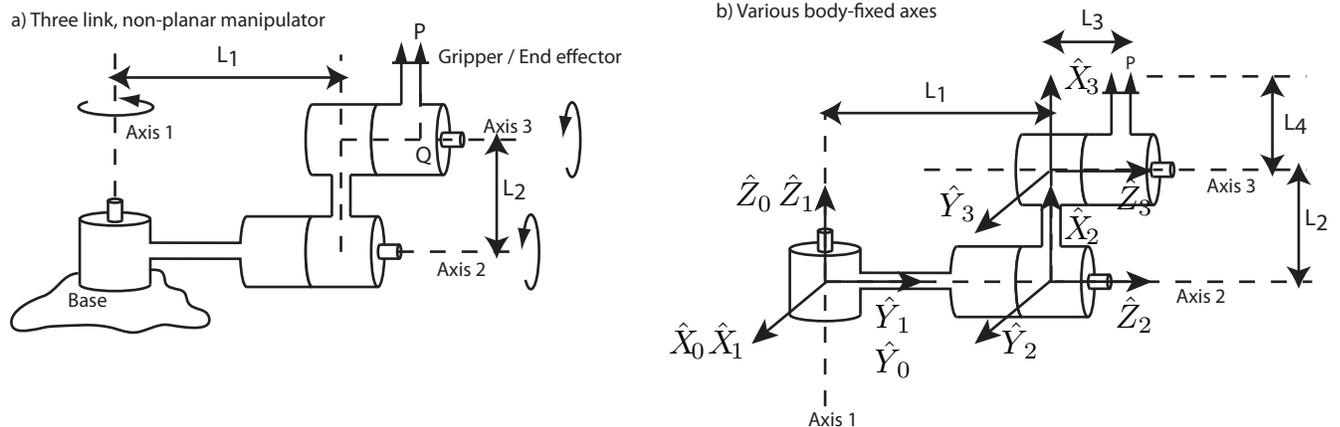

Figure 1: Three-link, non-planar manipulator, with 3 revolute joints.
**Q3. 3D Kinematics of a 3D manipulator [13 pts].** Consider the 3 link, non-planar RRR manipulator discussed in the lectures, shown in Fig. 1 below. We derived the DH parameters and defined a set of body-fixed axes for each link, including link  $\{0\}$ , the robot base. We also derived an expression for the position of a point P on the end-effector, represented in the base frame.